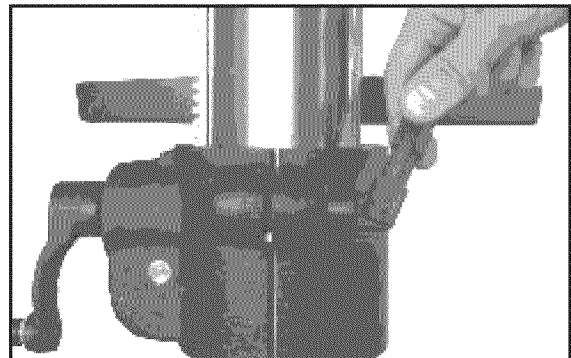

Figure 13
3. Install the locking lever onto the table support bracket and tighten the locking lever as shown (Figure 13).